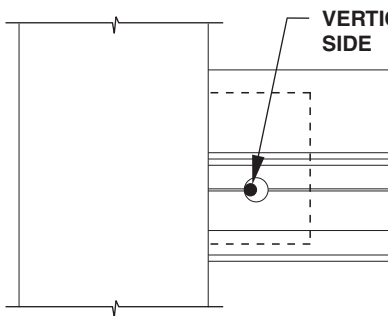

FIGURE 1
Hold fabricated horizontal member in place over shear block and tight against vertical member. Then match drill tap hole in shear block with #26 drill (.147") slightly offset to **Vertical Mullion Side** of countersunk hole in the horizontal so as to pull the joint tight when assembled as shown below.(See Figure 1)
2. Drill 1/4" diameter weep holes at 1/4 points of lite opening. (Figure 1)